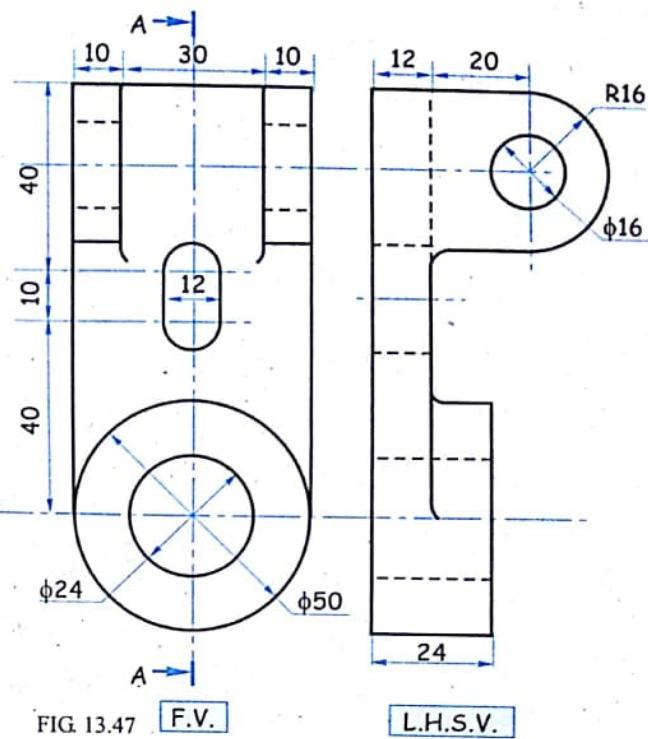

FIG. 13.47 F.V.
7. Draw : (i) Front view. (ii) Top view. (iii) Sectional left hand side view (Section A-A). Refer figure 13.47.